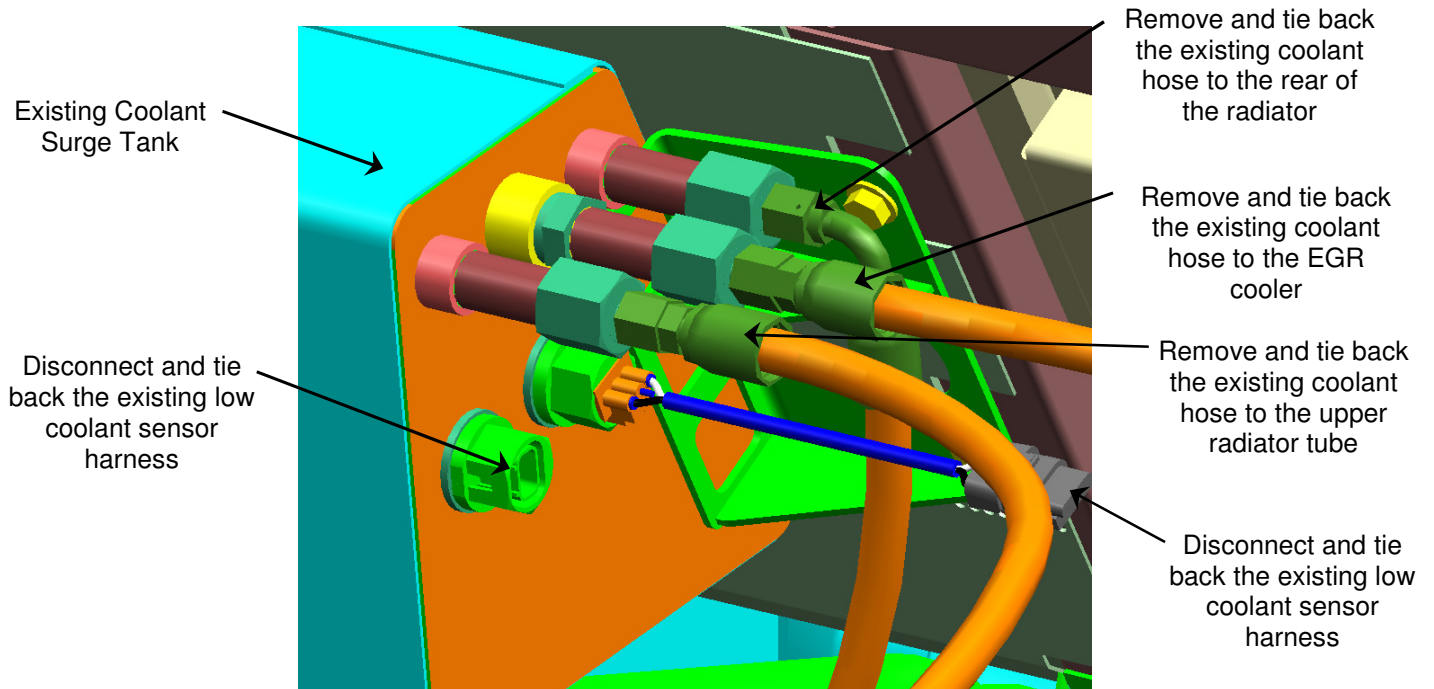

Figure 5: Remove Surge Tank Hose Assemblies
9. Disconnect and tie back the existing low coolant sensor harnesses. See Figure 5.
10. Disconnect, tag and tie back all remaining coolant hoses to the surge. See Figure 5.
- 26. Re-connect the surge tank low coolant level sensor electrical connections removed in Step 9. Reference Figure 5.
- 29. As per Step 19 re-install the surge tank coolant lines removed in Step 10. Reference Figure 5.